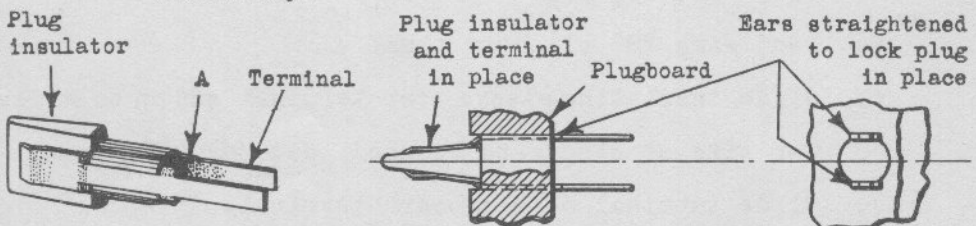

Figure 59. Plug and terminal assembly
3. Straighten ears A. Figure 59, shows complete assembly.